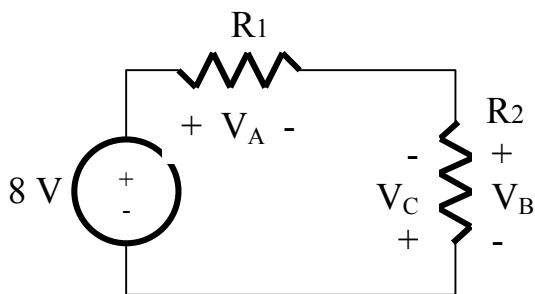

Figure 1: A series circuit
PL1. Consider the circuit shown in Figure 1 in which  $R_1 = 470\ \Omega$  and  $R_2 = 1\ \text{k}\Omega$ . To the right of the figure and inside the box provided, draw the single-resistor equivalent circuit and include the value of the equivalent resistance.
Calculate the expected current in the series circuit of Figure 1. Show your work below and box your answer.
**P1.** → Construct the circuit shown in Figure 1 of the prelab ( $R_1 = 470 \Omega$ ,  $R_2 = 1 \text{ k}\Omega$ ) on your prototype board. Use the bench DC power supply for the voltage source, using the multimeter to set the supply voltage accurately to 8 volts.